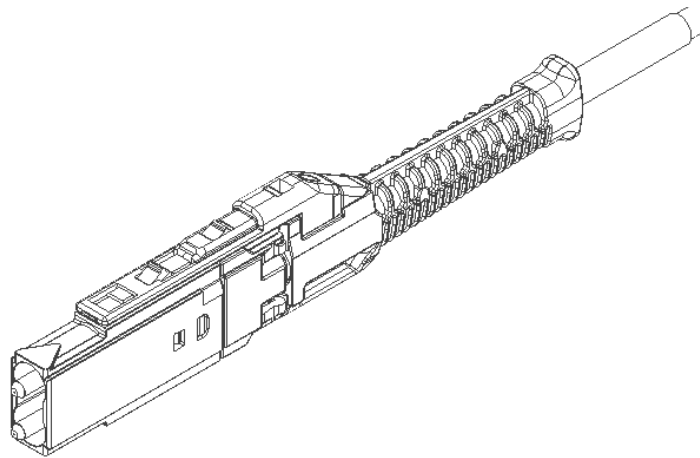

Figure 2.1: MDC Connector
The MDC connector (Figure 2.1) is a very small form factor optical connector designed to provide (4) separate two-fiber connections into a QSFP-DD module and (2) separate two-fiber connections into a SFP-DD module. A push-pull boot allows for simple insertion (and removal) of the MDC connectors to (and from) the receptacles. The MDC connector contains (2) 1.25 mm diameter ferrules and will be installed on 2.0 mm OD (or less) optical cables.